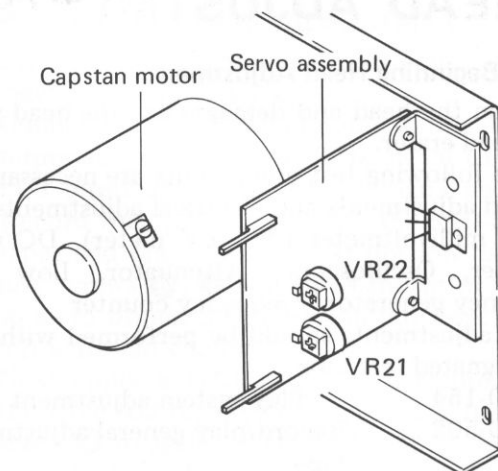

Fig. 7-8 Tape speed adjustment
2. Connect a frequency counter to the OUTPUT terminals, and start up the unit in PLAY mode. If the frequency counter fails to register 3,000Hz, adjust VR21 in the servo assembly as shown in Fig. 7-8.
3. Next set the SPEED switch to 9.5 (depressed position), and adjust VR22 (also shown in Fig. 7-8) to obtain a frequency counter reading of 1,500Hz.